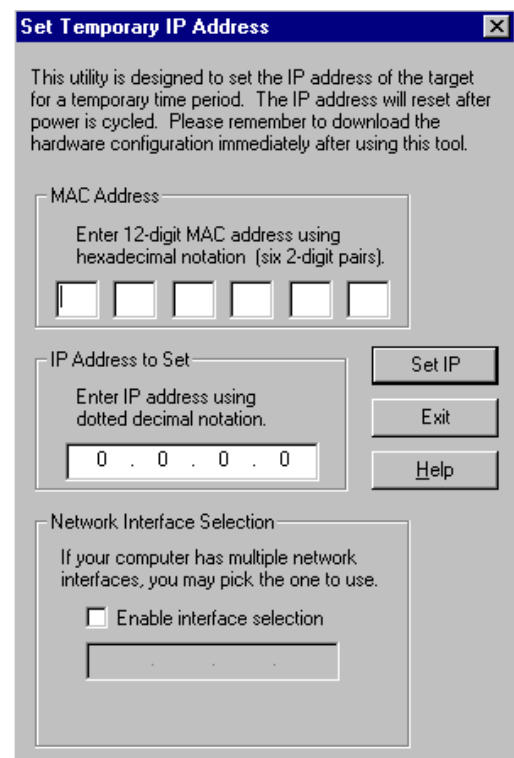

Figure 17: Set Temporary IP Address
2. In the Project tab of the Navigator, right click the PACSystems target, choose Offline Commands, and then choose Set Temporary IP Address. The Set Temporary IP Address dialog box (Figure 17) appears.